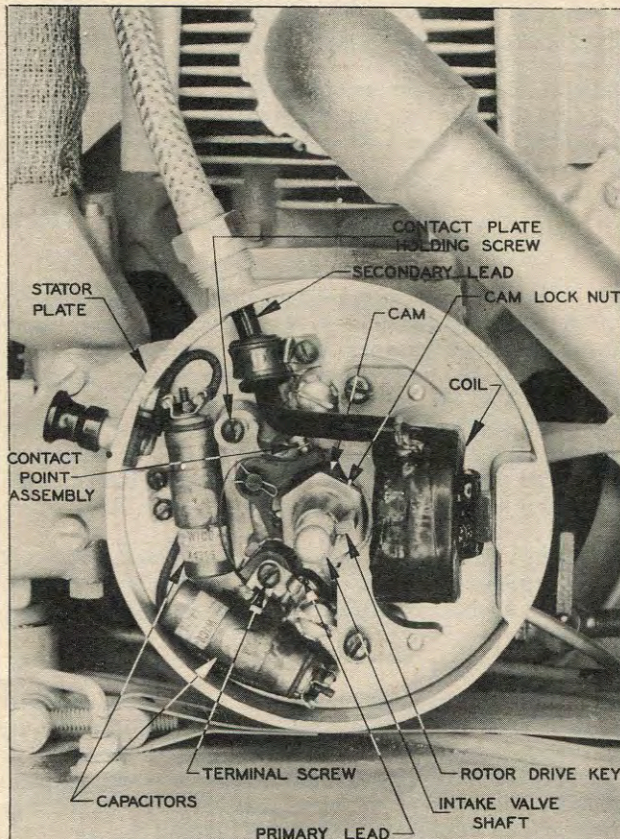

Figure 6 - Contact Point Adjustment
b. Ignition. (See figure 6.) - The ignition of the model HRU engine is a high tension flywheel type magneto mounted as a complete assembly at the end of the intake valve shaft assembly. This consists of a magnet mounted in the rotor, and a high tension coil with laminated core mounted on the stator plate, together with the contact point assembly and capacitors. To determine if the ignition is functioning, disconnect the shielded high tension lead at the spark plug and hole 1/4 inch from cylinder shield. Depress starting switch. If no spark, or only a weak one, is obtained, check following items:
(1) Contact Points. - The only magneto adjustment is at the contact points which should be inspected every 100 hours of operation to see that the gap is exactly .020 inch. To adjust, proceed as follows:
In installing a new coil use extreme care to avoid damage to the windings. Before inserting the coil wedge, or wedges, be sure the secondary terminal of the coil is correctly located. (See figure 6.) In replacing coil core, use great